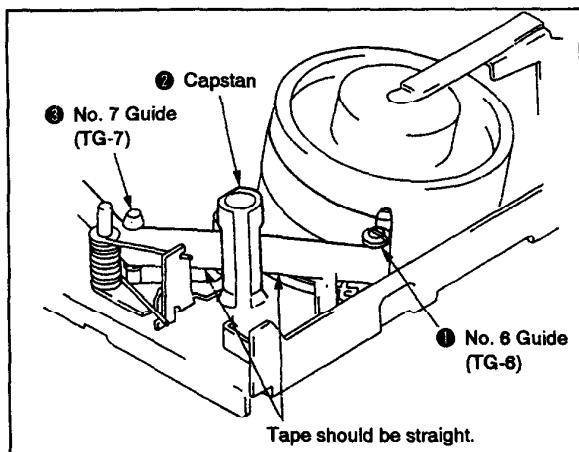

Fig. 4-15.
#### 4-8-2. Rising Check (See Fig. 4-15.)
- 4) Set the playback mode and confirm that the RF waveform rises flat within 2 seconds. Also confirm that the tape is not bent around the pinch roller (See Fig. 4-15).